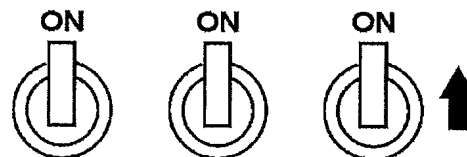

Figure 25. Auxiliary Circuit Breakers (ON)
- Place auxiliary circuit breakers (Figure 25) in the **ON** position.